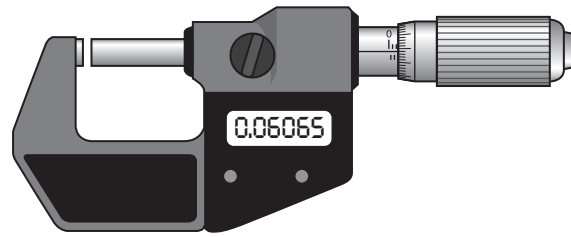

Fig. 5.1
- 5 Fig. 5.1 shows an electronic digital micrometer.